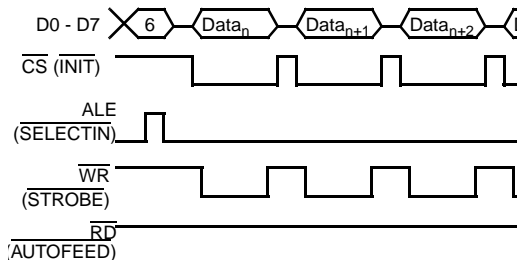

Figure 58: Writing to the Configuration Register (μP)
The DataPort is used to write the gamma table and the offset/gain coefficients to the LM9830 in a continuous stream. First, write to register 3 to set what the data is (gamma or offset/gain) and what color (red, green, or blue) the data is for. Then write to registers 4 and 5 to set the initial address (usually 0), and the R/W mode (W in this example). To write data to the DataPort, send the Data address (6) to the DataPort followed by a serial stream of data as shown in Figure 58. The DataPort Address stored in registers 4 and 5 will be automatically incremented after every write (if writing gamma data) or every second write (if writing offset/gain coefficient words).